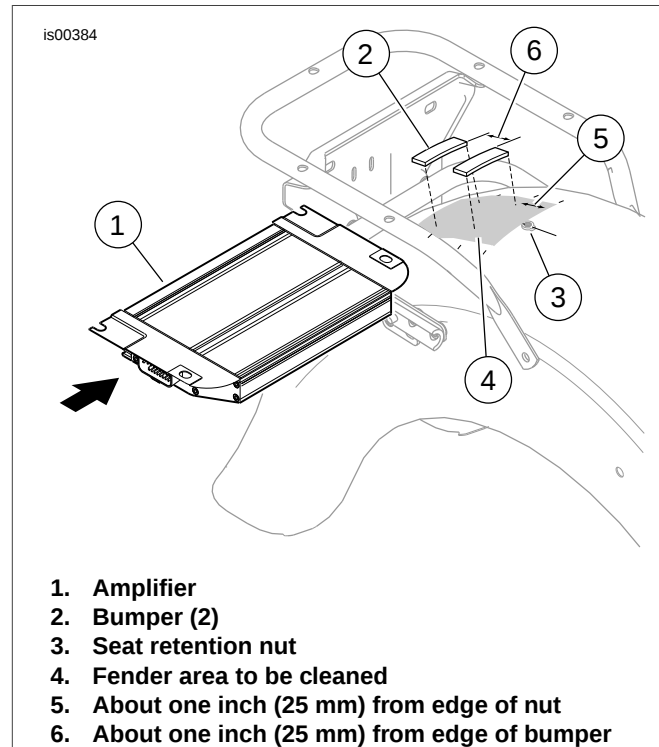

Figure 2. Amplifier Installation, 2008 and Earlier Touring Models
4. See Figure 2. Obtain the two cushion bumpers (2) from the kit.
5. Use isopropyl alcohol to thoroughly clean the rear fender surface in the area (4) behind the seat retention nut (3).